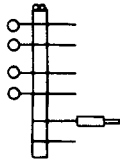

Fig. 13—240H Plug
- 2.13 240H:** The 240H plug (Fig. 13) is equipped with one 30-cord tip and is used with the test jacks on step-by-step switches.